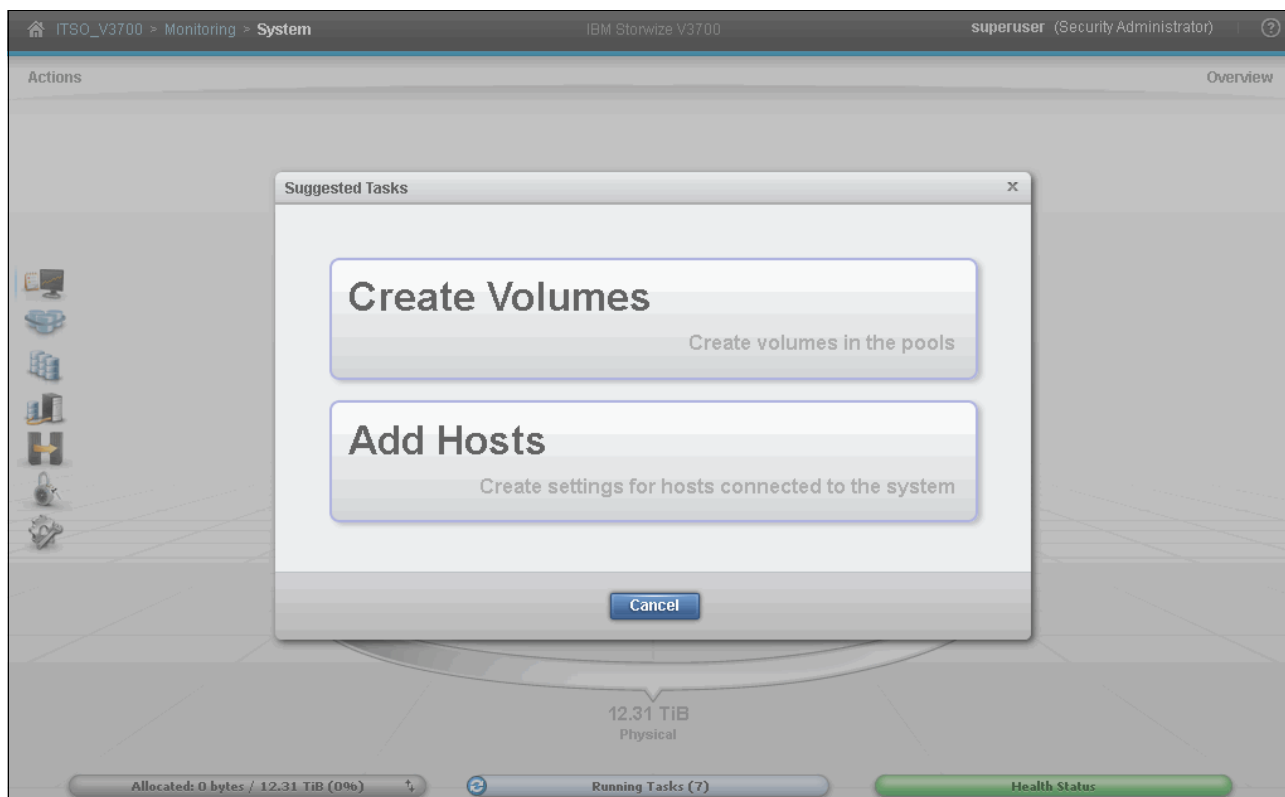

Figure 2-33 IBM Storwize V3700 Suggested Tasks
16. Closing the task box completes the Initial Configuration wizard, and the IBM Storwize V3700 GUI directs you to the Suggested Tasks, as shown in Figure 2-33.